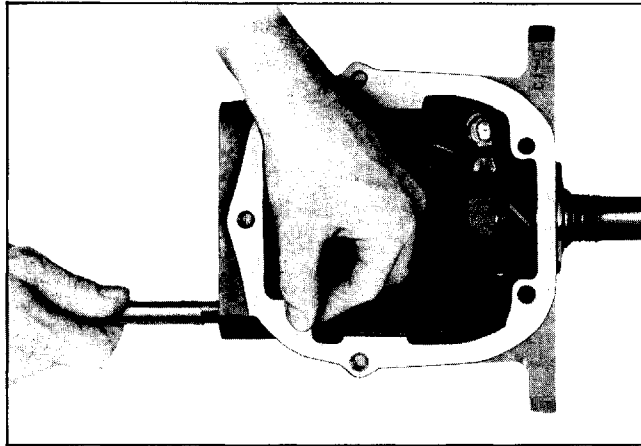

Fig. 7-22 Removing Shift Shaft
7. Slide shift shafts through rear of transmission case, taking care not to lose poppet balls and springs when ends of shafts clear these parts (Fig. 7-22).